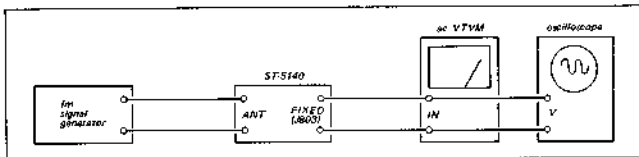

Fig. 3-2. *1-f, muting and frequency coverage alignment test setup*
1. With the equipment connected as shown in Fig. 3-2, set the signal-generator's controls as follows:
1. With the equipment connected as shown in Fig. 3-2, set the tuner's controls as follows:
- Connect the equipment as shown in Fig. 3-2